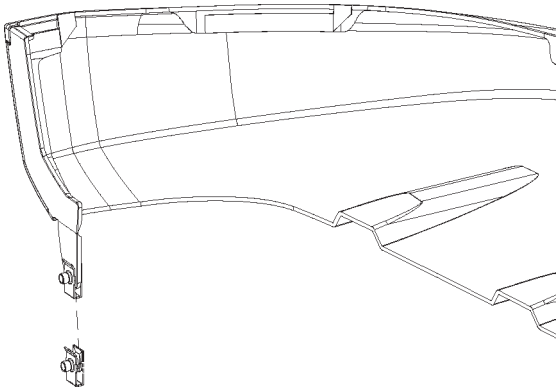

FIGURE 48
5. Insert U nut onto hinge in wheel well of front cladding – 1 per side. Refer to figure 48.